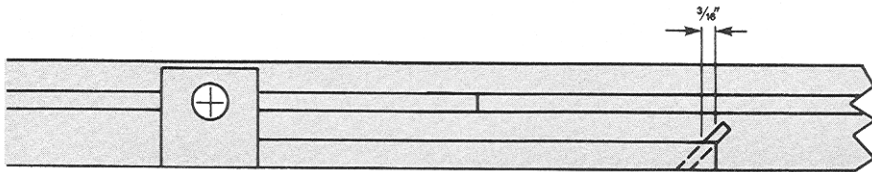

Fig. 1. For the first cut place the stock in the jig 3/16" from the inside kerf in the fence.
**Step 3:** Set the Jig on your saw table and place one of the 8-3/8" pieces in it. Adjust your stock against the fence so that the end to be cut protrudes 3/16" past the kerf cut into the fence (See Fig. 1). Slide the stop block up against the other end of your stock and tighten the bolt. Adjust your featherboard against the edge of the stock so the stock will be held firmly against the fence. Bevel one end of each 8-3/8" board.